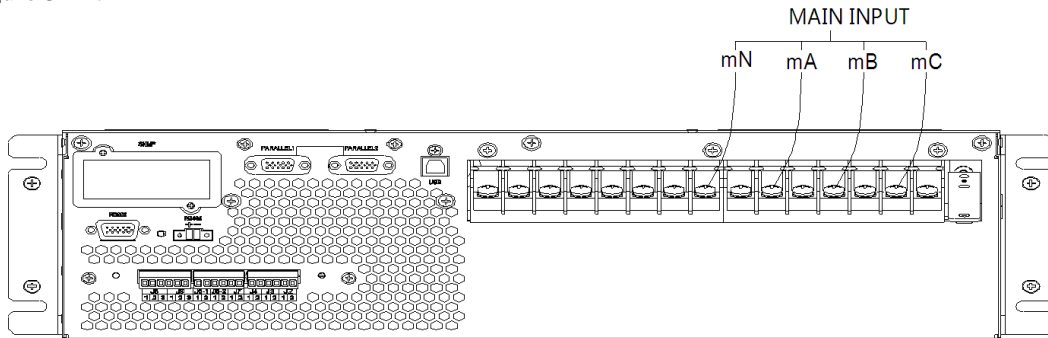

Figure 3-14 Main line input connection diagram
- a. Remove all copper bars, connect input cable only (no bypass/output/battery).As shown in Figure 3-14.